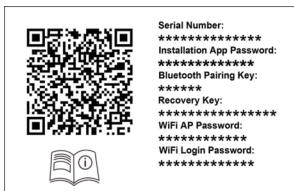

Figure 1: Example of the password sticker in the Safety Guide.
- a) Establishing a Bluetooth connection with the Wallbox. Please scan the multifunctional QR code with individual access information on the **password sticker** in 'Installation: first steps' of the Safety Guide (see Figure 1 below for an example of the QR code).